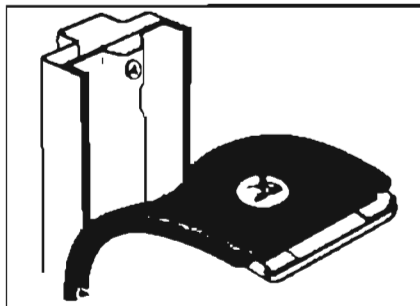

Figure 13-43—Attachment of Center Pillar Trim
3. With a suitable flat bladed tool, pry loose the center pillar trim from its ratchet nail attachment on the center pillar as indicated in figure 13-43.